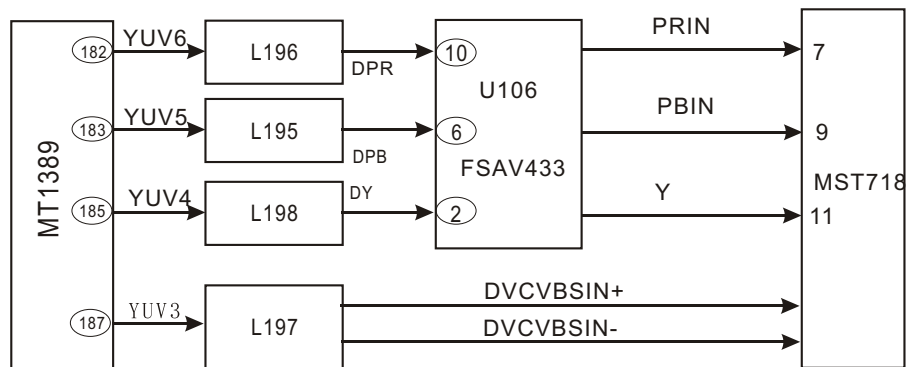

Figure 3.2.10.1 Video signal flow chart
1. Video signal flow chart diagram is shown as in the following figure 3.2.10.1 :